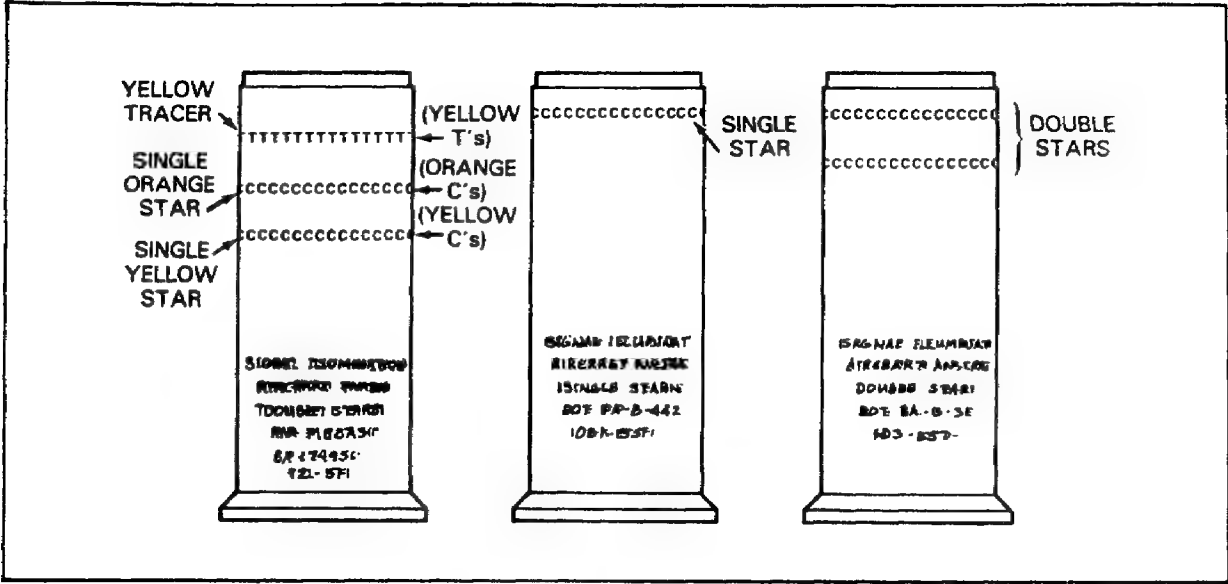

Figure 103. Aircraft Signals.
**Aircraft Signals.** Aircraft signals (Figure 103) are approximately 4 inches long and 1 1/2 inches in diameter. They resemble large shotgun shells. They have an aluminum case. Markings on the cartridges indicate the type and color of the signal produced. A band or bands of C's indicate that the signal has stars. The color of the bands of C's shows the color of the signal produced. The number of bands indicates the number of stars. For example, two bands of red C's indicate that the signal will make two red stars. A band of T's means that the signal has a tracer. The T's are in the same color as the color of the tracer flame produced. Other markings are in black. Aircraft signal flares are fired from a pyrotechnic pistol and may be used for ground-to-air or air-to-ground signaling.